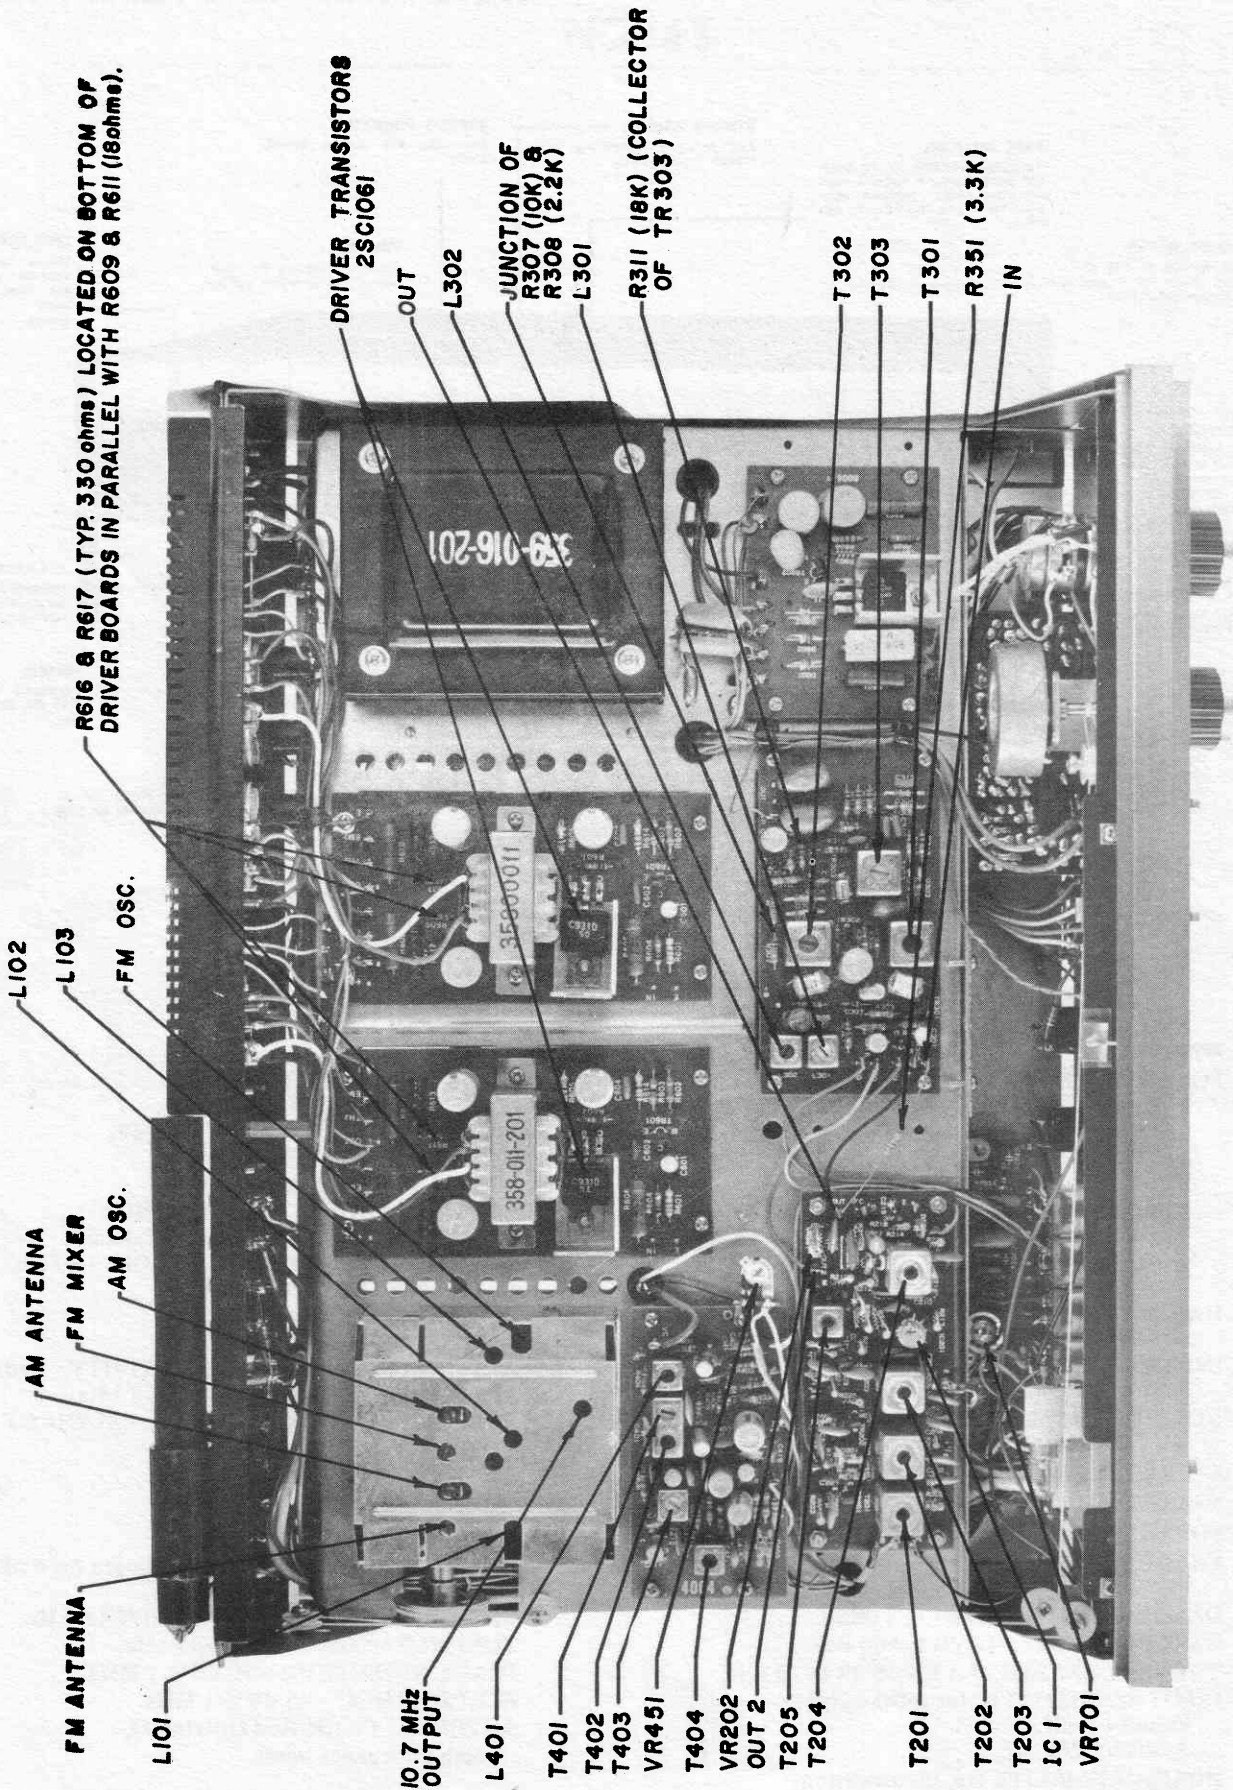

Figure 1
2. Find a "quiet" spot on the band near 90 MHz and tune the Sweep Generator to this frequency. A scope demodulator probe is now connected to Pin 1 of IC 1. (see Figures 1 and 2).
1. Feed a Multiplex composite signal modulated Left channel only, into the "IN" terminal of the multiplex board. (This signal may be used to modulate an FM generator if desired.) Connect a scope or AC VTVM to R311 (COLLECTOR OF TR303) (see Figure 1). Adjust T301, T302, T303 for maximum output.
3. Move the probe to the junction of R307 and R308 (see Figure 1). Feed a 19 KHz signal into multiplex board "IN" terminal. Adjust L302 for minimum output.
2. Refer to Figure 1. Adjust L401, T401, T402, T403 and T404 for maximum deflection of the signal strength meter.